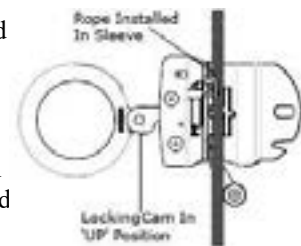

Figure 6
- iii. Pull the lifeline sleeve apart until the unit is fully opened. (See Figure 6)